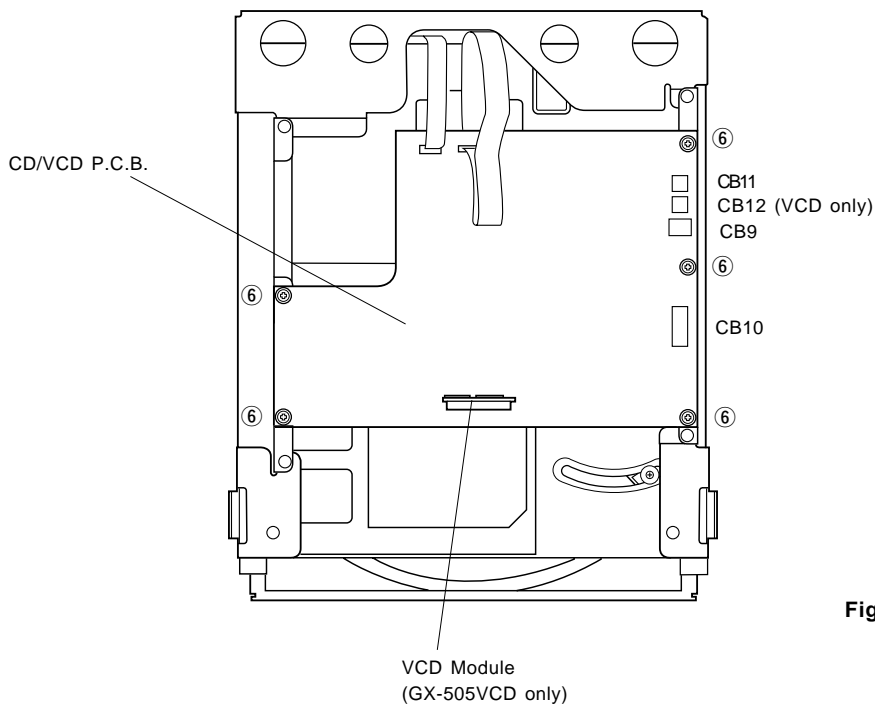
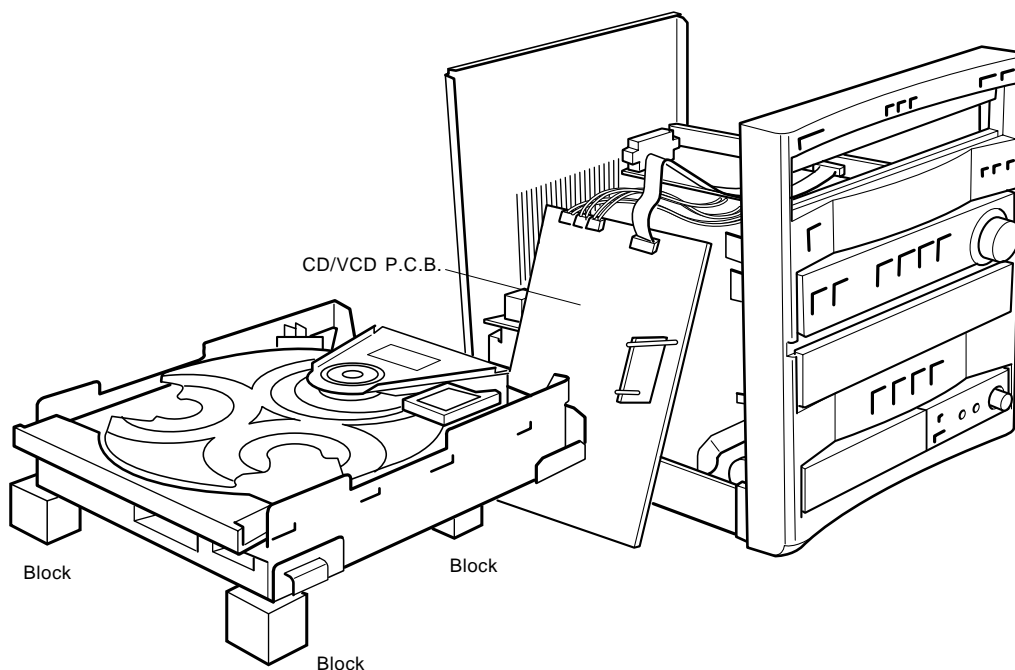

Fig. 4
Fig. 5
- b. Remove 5 screws (⑥) and then remove the CD/VCD P.C.B. in Fig. 4.
- c. Place blocks (at 3 locations) to hold the CD Mechanical Unit horizontally as shown in the Fig. 5.
- d. Connect the Flat Connecting Cable (CB10) and 3 connectors (CB11, CB12 and CB9) in Fig. 4 and Fig. 5.